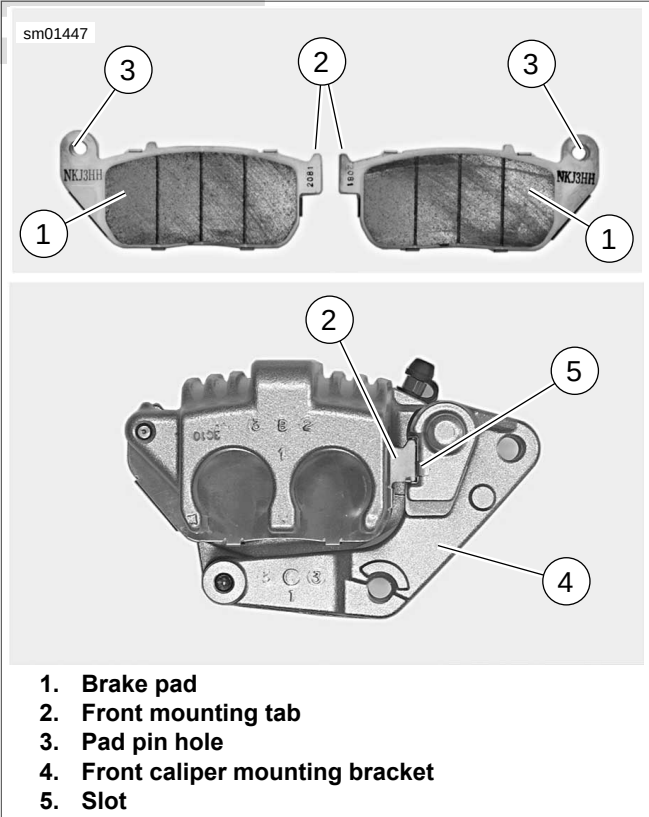

Figure 2-72. Front Brake Pads
1. See Figure 2-72. Insert one set of brake pads (1) into caliper with friction material on pad facing opening for brake disc. Curved portion of pad fits into recessed area of caliper. Make sure brake pad front mounting tab (2) fits into slot (5) in caliper mounting bracket (4).
- See Figure 2-72. Pad front mounting tabs (2) must be fully seated in mounting bracket slot (5).